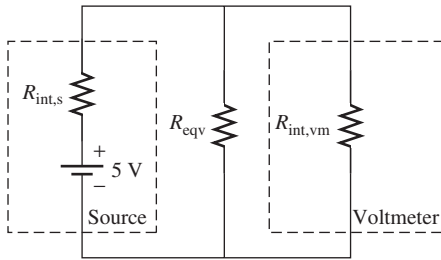

FIGURE P14.17 Using a voltmeter to check circuit voltage.
- 14.17** (A) A 5 V source (V_s) with a 5 Ω internal resistor ($R_{\text{int},s}$) is providing power for a circuit whose equivalent resistance (R_{eqv}) is 500 Ω (shown in Figure P14.17). Assume that you use a voltmeter with a 1 M Ω internal resistor ($R_{\text{int},vm}$) to check the voltage on the circuit. When you begin to check the voltage, how will the voltage applied on the circuit change? How much will it change? If the voltmeter's internal resistor is 500 Ω , how much would the change be?